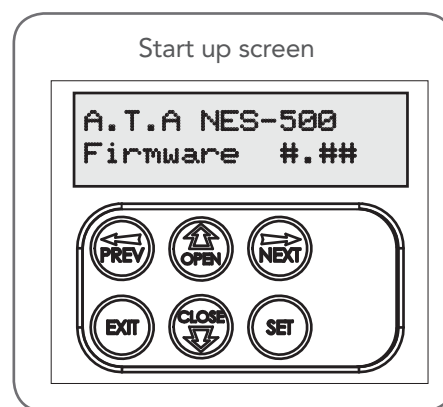

Fig 6.2
- After checking the initial wiring, apply power to the NeoSlider™. The controller will go through a startup sequence displaying the STARTUP SCREEN which indicates the controller type and firmware version (**Fig. 6.2**). After a short delay the MAIN SCREEN will be displayed.